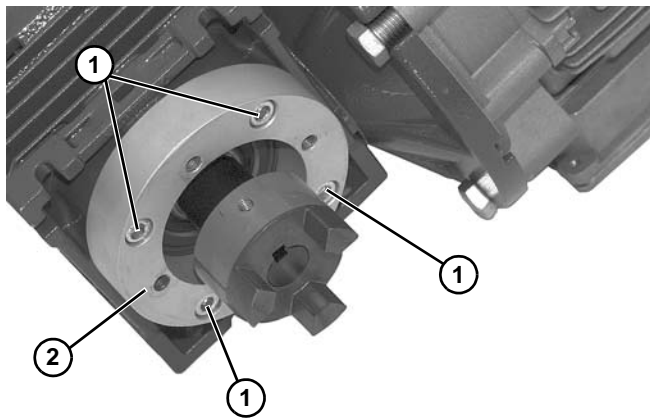

Figure 15
4. Remove the four (4) adapter screws (**Figure 15, item 1**) and remove the adapter (**Figure 15, item 2**).